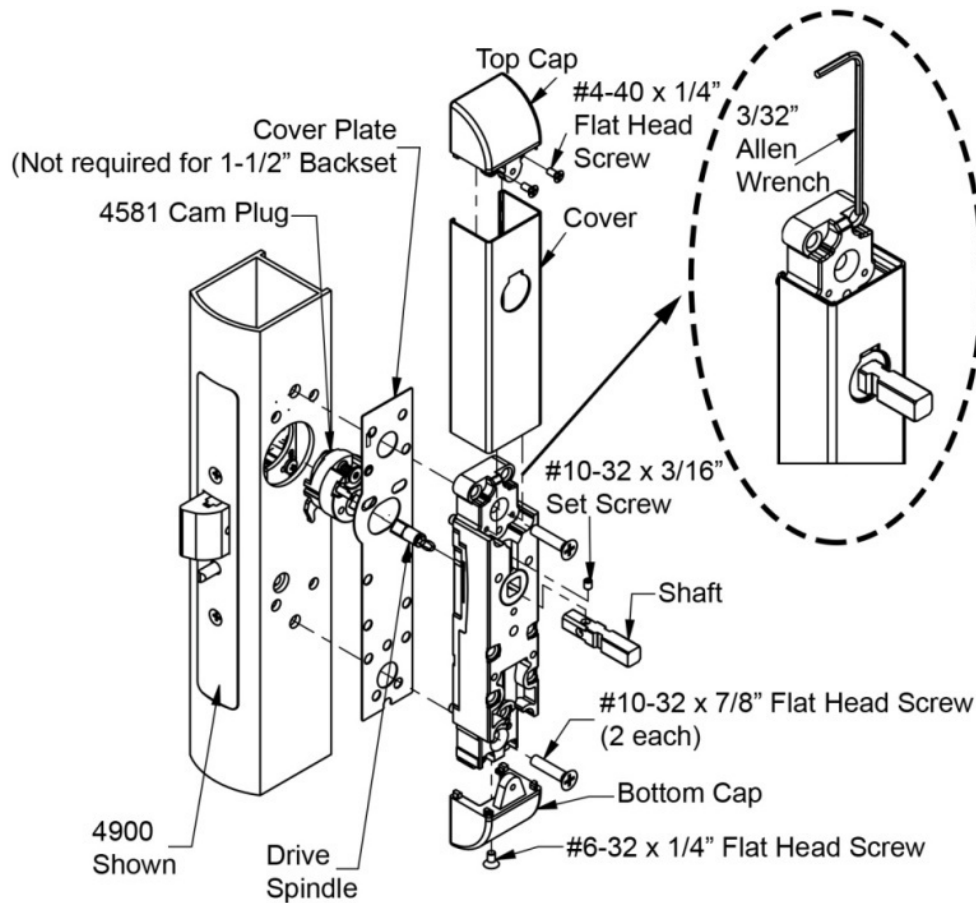

Figure 6. Installing Trim to Stile
7. TIGHTEN the set screw with a 3/32" Allen wrench to secure the shaft (see Figure 6, "Installing Trim to Stile").
8. INSTALL the top cap using two #4-40 x 1/4" flat head screws (see Figure 6).
9. PUSH the cover up flush with the top cap, and INSTALL the bottom cap using a #6-32 x 1/4" flat head screw (see Figure 6).